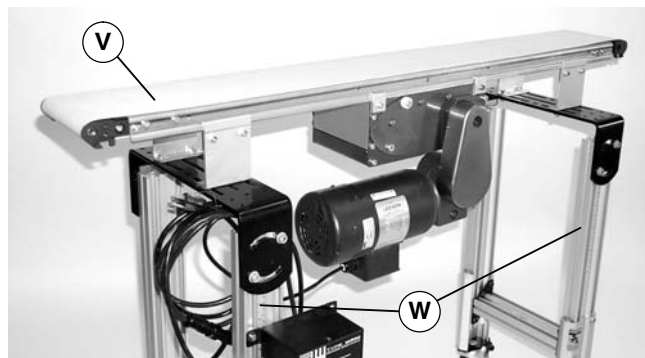

Figure 10
5. Position conveyor (V of Figure 10) on stands (W).